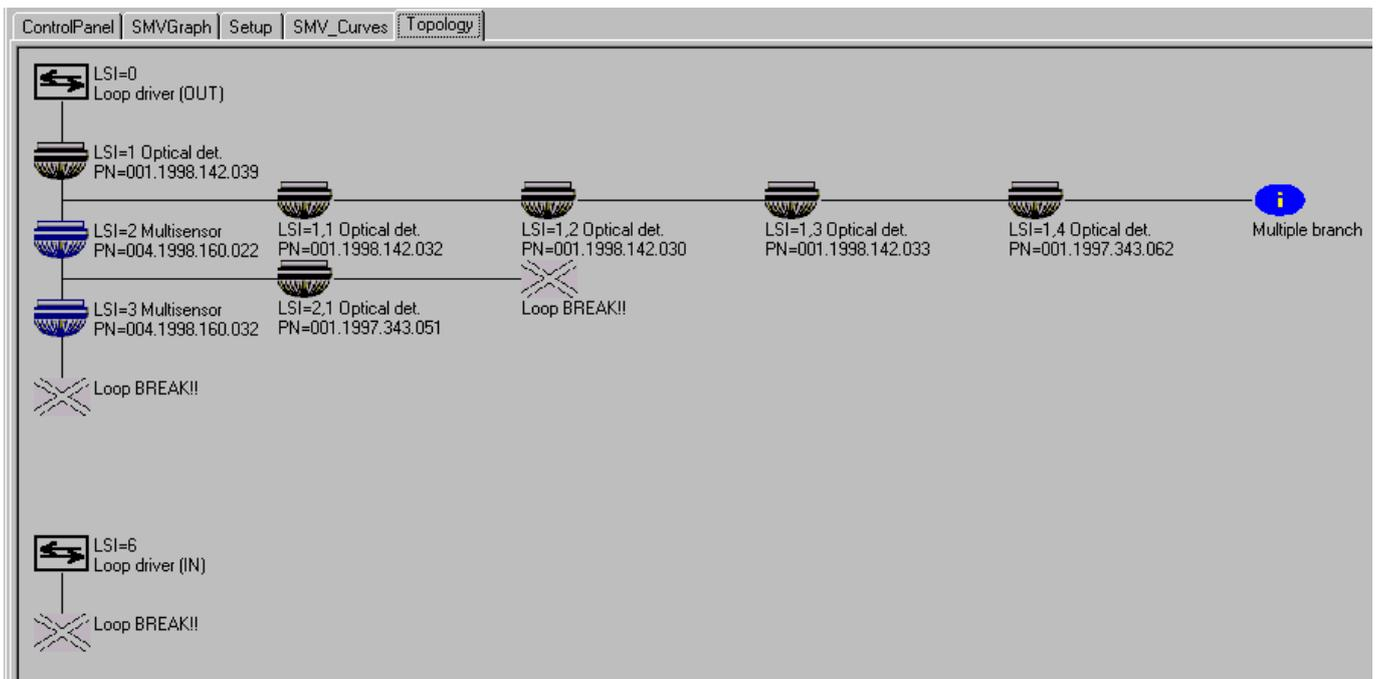

Figure 34. Inadequate interpretation of loop topology
- Figure 34.* Inadequate interpretation of loop topology